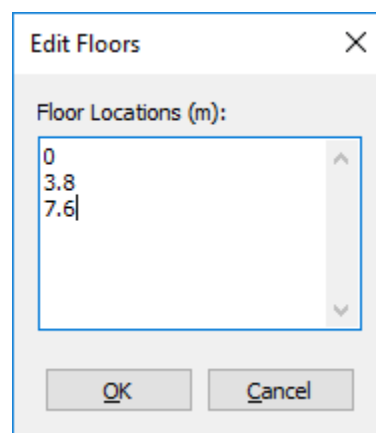

Figure 16. Edit Floors dialog
3. In this list, add, remove, and edit floor locations (Figure 16).